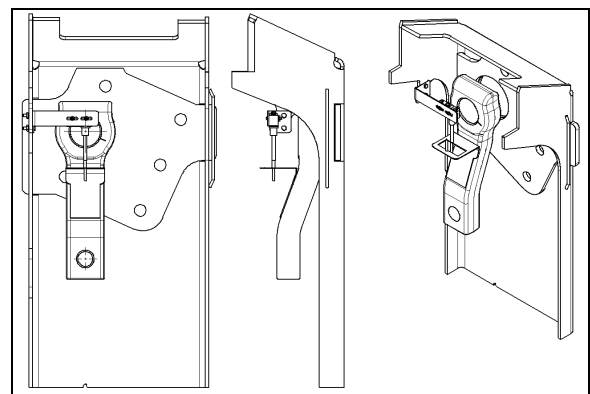

FIGURE 18: TAG AXLE UNLOADING SWITCH ADJUSTMENT
2. Line up switch lever with reference to the bracket center (Refer to Figure 18).